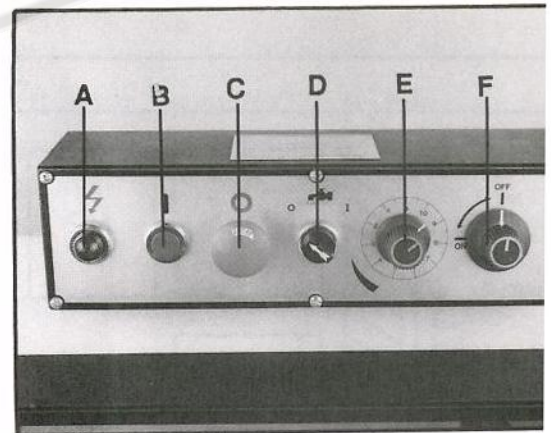

Fig. 2
## Controls - Figure 2 & 3
2. Turn hydraulic valve to on (F, Fig. 2)
3. Turn cutting pressure control valve (E, Fig. 2) counter-clockwise until it stops.